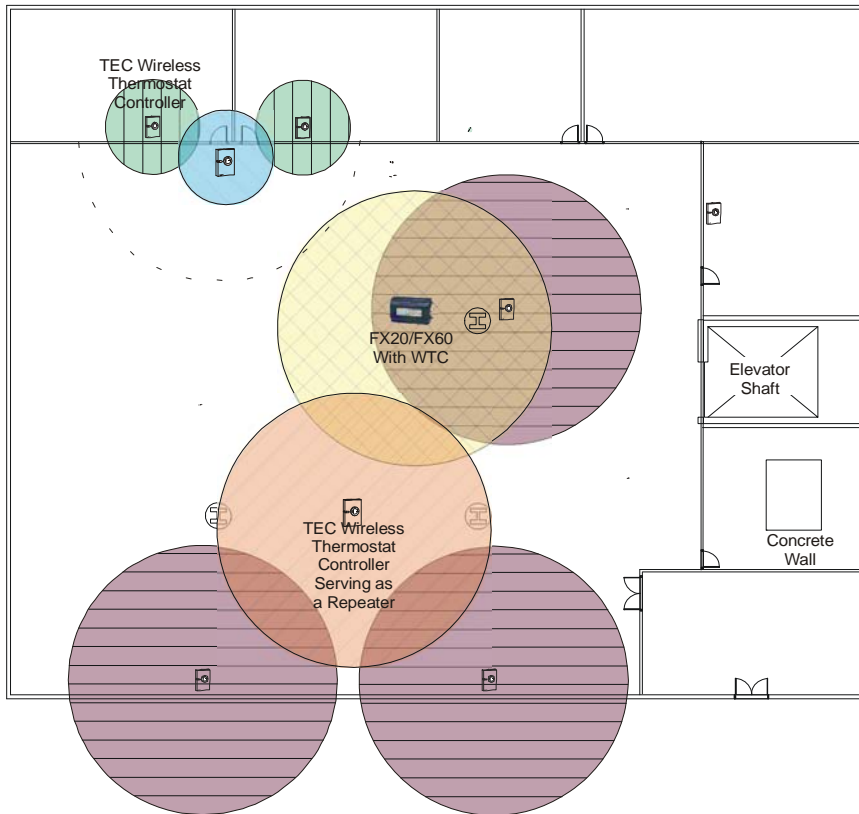

Figure 5: Building Floor Plan with TEC Series Wireless Thermostat Controller System, including Repeaters
5. Add TEC Wireless Thermostat Controllers to serve as repeaters, to fill in gaps and provide multiple wireless transmission paths between wireless products in the network. See Figure 5.